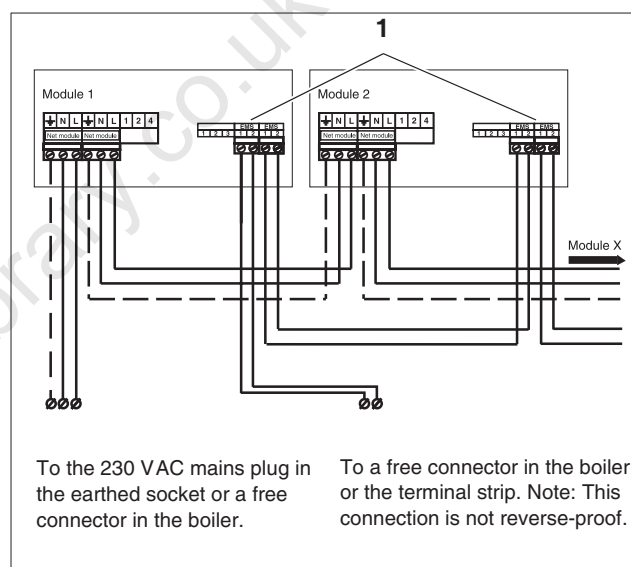

fig. 63 Connecting several modules
- Connect the 230 VAC mains cable of the first module to the next module (fig. 63).
The module may have the letters RC or EMS above the connection (fig. 63, item 1).
- If more modules are used, the EMS bus connection for the second module may be branched off from the first module using the cable enclosed with the module (fig. 63 and 64).
- Connect the wire from terminal 1 to terminal 1 and from terminal 2 to terminal 2 (fig. 63 and 64).